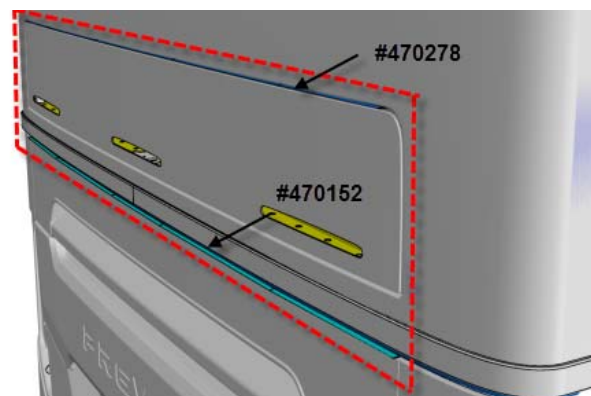

FIGURE 41
2. See on FIGURE 41 where each drip edge will be positioned. The drip edges will be fastened on the vehicle body, **not on** the ATS access hatch.
5. Clean dirt on the area located right above the ATS access hatch and the area where the lower drip edge will be installed (FIGURE 41). It is very important to install the drip edges on a clean surface to ensure water tightness.